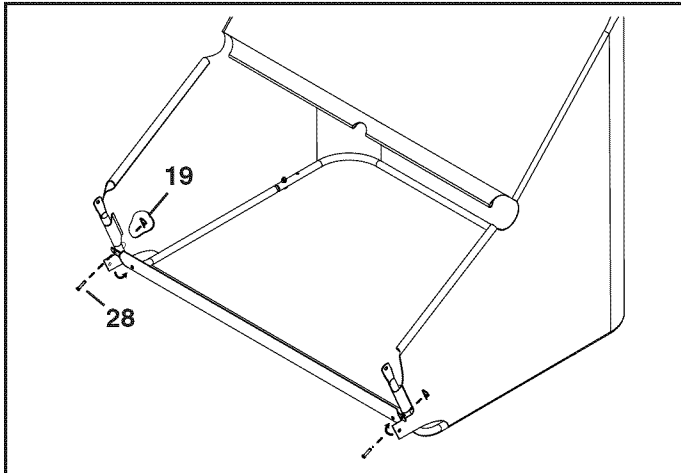

FIGURE 9
**STEP 9: (SEE FIGURE 9)**
- Slide the front flaps of the hopper bag up onto the front of the lower hopper tubes. Secure the bag frame tube to the lower hopper tubes using two clevis pins (28) and small hairpin cotters (19).